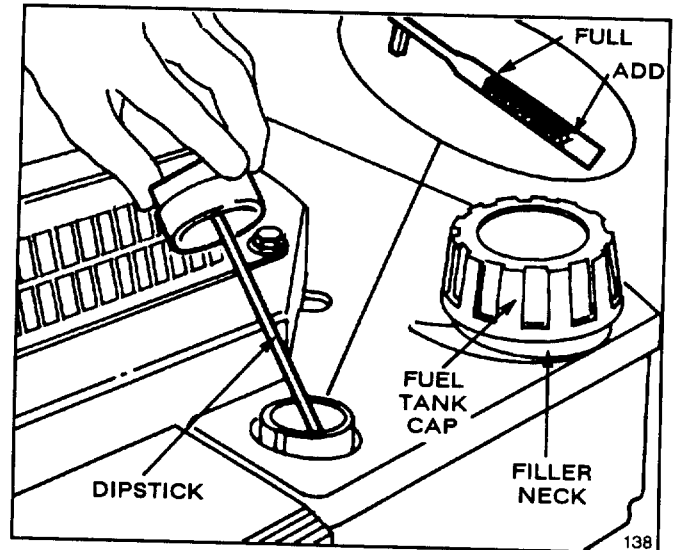

Figure 3
Before each use, ensure oil level is between FULL and ADD marks on dipstick (Fig. 3). Add oil if level is low.
4. Wipe dipstick and insert it into filler neck. Rotate cap clockwise 1/4 turn. Then remove dipstick and check level of oil (Fig. 3). If level is low, add only enough oil to raise level to FULL mark on dipstick. **DO NOT FILL ABOVE FULL MARK BECAUSE ENGINE COULD BE DAMAGED WHEN STARTED. POUR OIL SLOWLY.**
1. Clean around fuel tank cap and remove cap from tank (Fig. 3). Using unleaded gasoline, fill fuel tank to within 1/4 to 1/2 inch (6 to 13 mm) from top of tank, not into filler neck. This space is for expansion of fuel. Do not fill tank full.